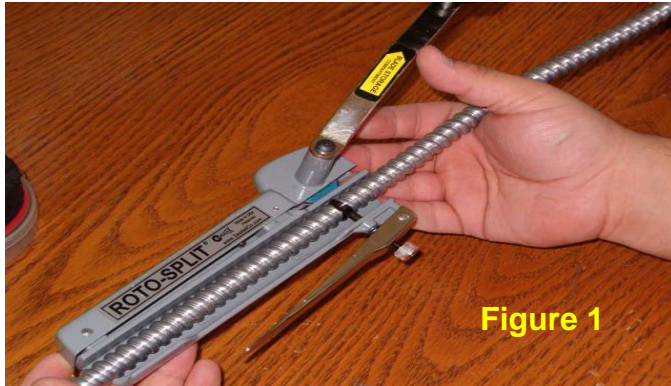

Figure 1
3. Insert the cable so that the mark applied to the exposed armor aligns with the holding pin of the Roto-Split tool. Cut the interlocking armor per the tool instructions and remove. See Figure 1.